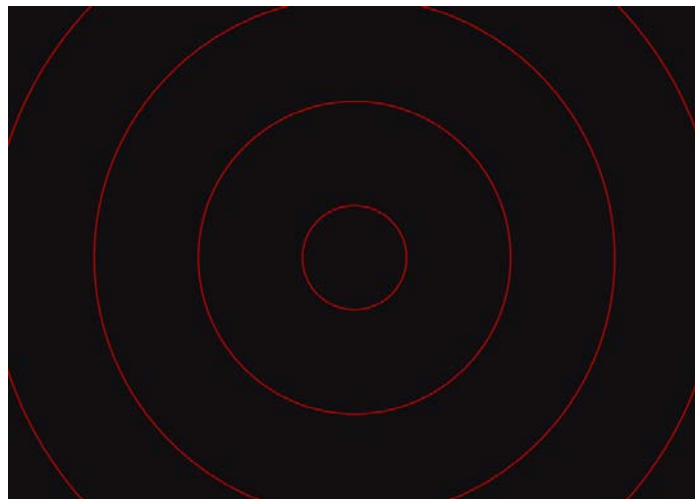

Fig. 5-80 Circle ruler
(6) Circle ruler : Self-Key in unit of gap and display same gap's concentric circles, see Fig. 5-80.